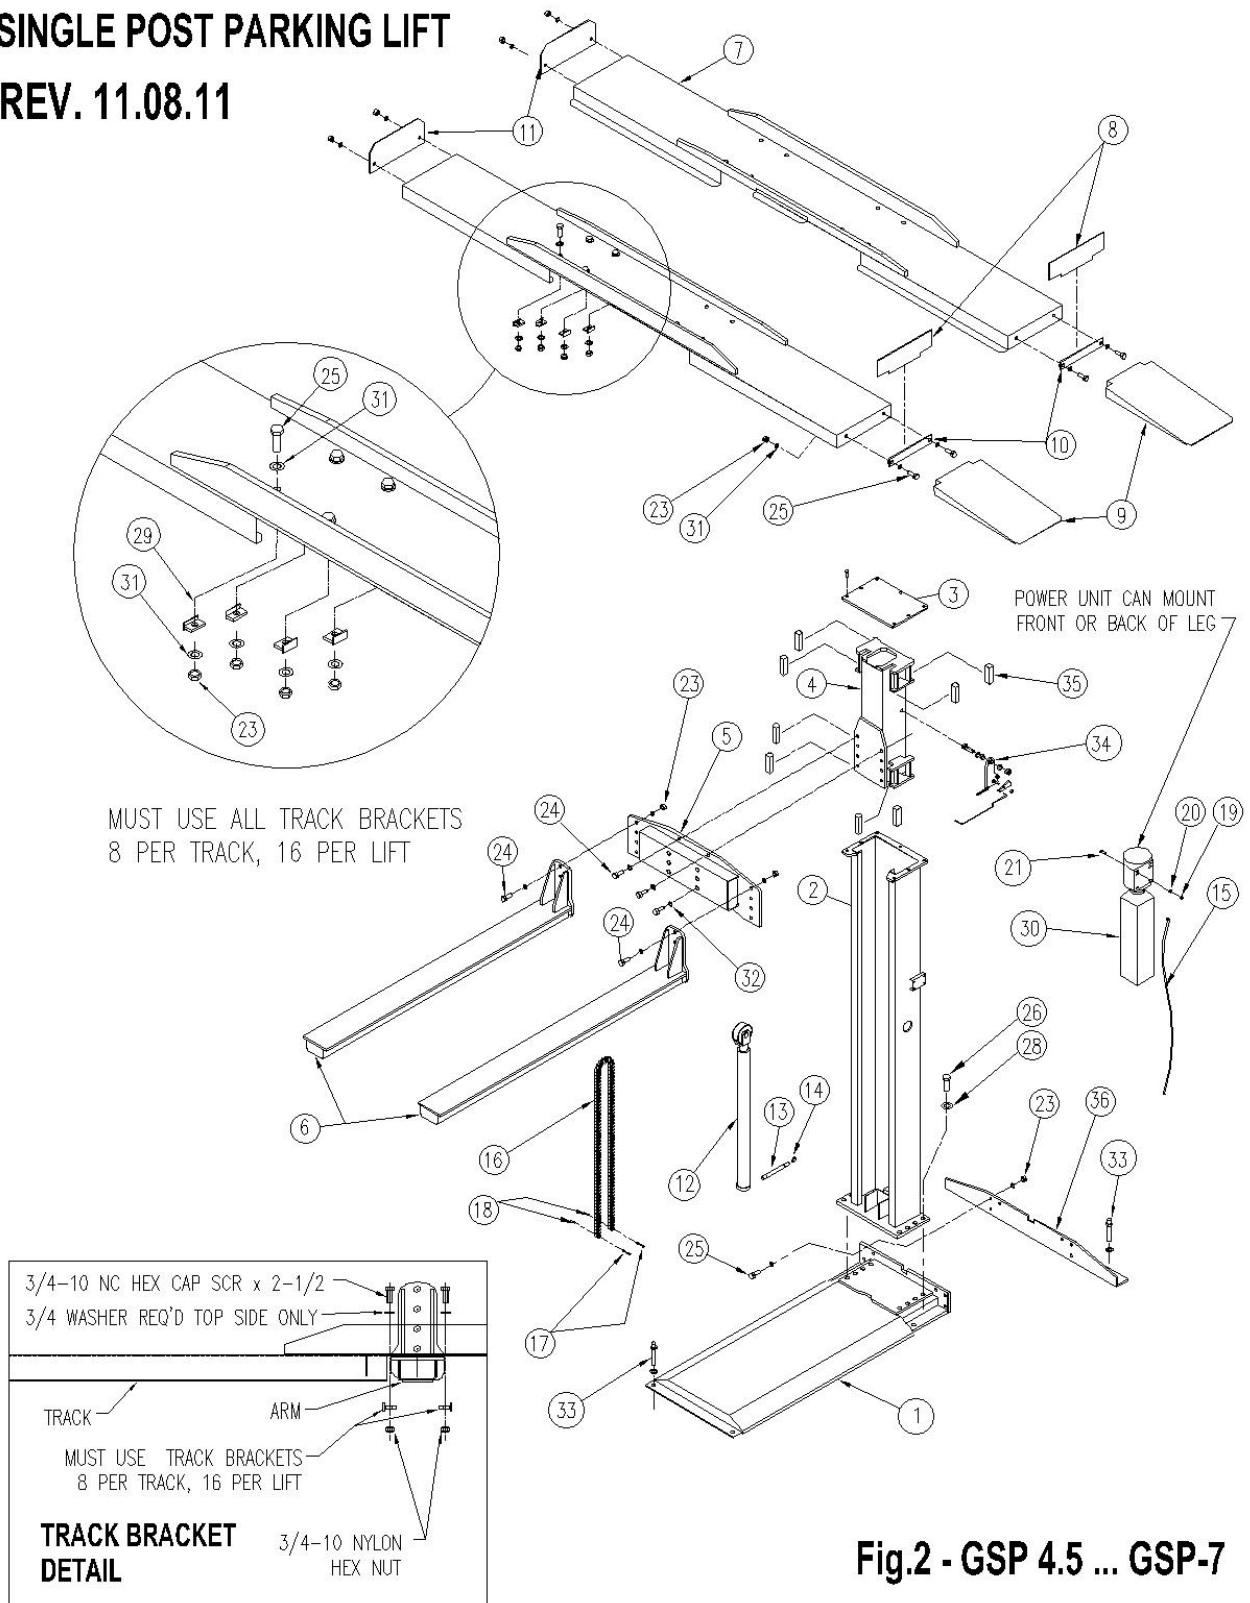

Fig.2 - GSP 4.5 ... GSP-7
PARTS LIST Fig.2 – GSP 4.5 & GSP-7
2. Refer to **Fig.1** for lift specifications and concrete pad specifications, Read the anchor bolt instruction page before drilling and installing the anchor bolts. Refer to **Fig.2**, Lift Assembly, for an overview of the lift and its parts.
4. Secure the Leg - **Item 2** to the Base - **item 1** using 1 - 8 NC Hex Bolt x 1 3/4 - **Grade 8**. Must use washers. See Fig.2
Caution - Must use SAE washers. Make sure yoke is square with carriage. See Fig.2